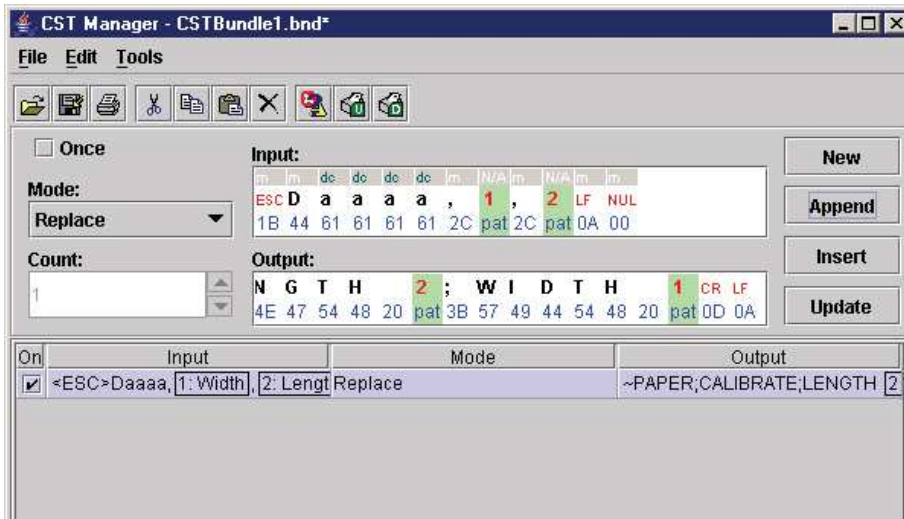

Figure 157 The Appended CST
34. Click **Append**. See Figure 157.